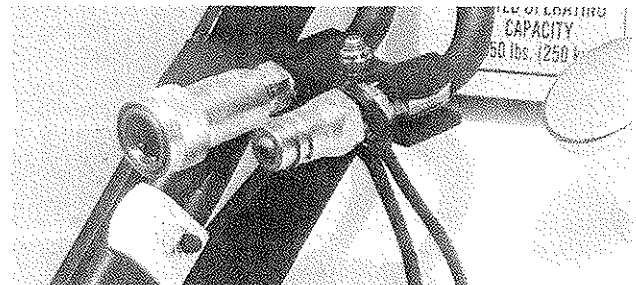

FIGURE 7
6. Connect accessory hydraulic hoses to the quick couplers if so required. See **Figure 7**. Restart the engine.